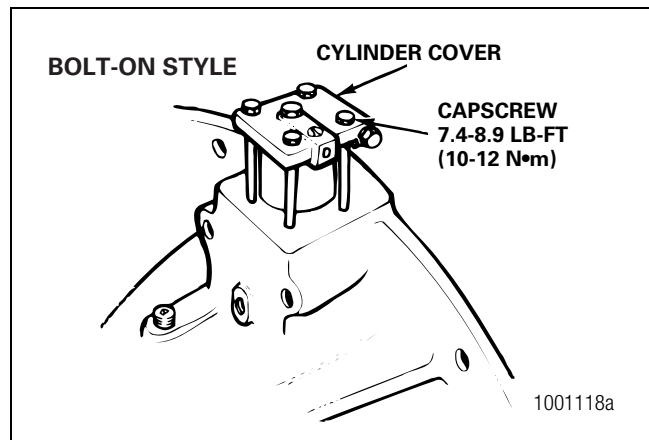

Figure 6.13
10. Install the copper gasket into its bore on the inside of the cylinder cover. Place the cover in position over the cylinder so that the air intake port will point UP when the carrier is installed into the housing. Install the cover with the four attaching capscrews and washers. Tighten the capscrews to 7.4-8.9 lb-ft (10-12 N•m). Figure 6.7 and Figure 6.13. **ⓘ**